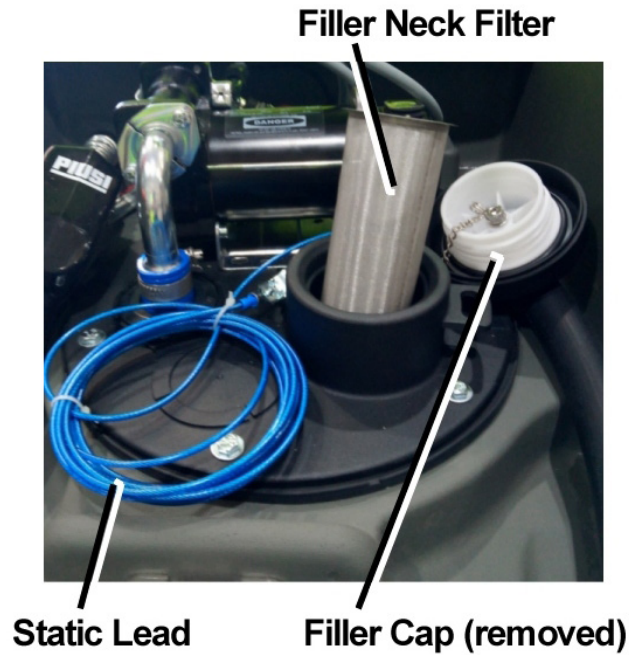

Figure 2 – Tank Filling Operation
- Unscrew the filler cap from the tank's top opening, refer to Figure 2.